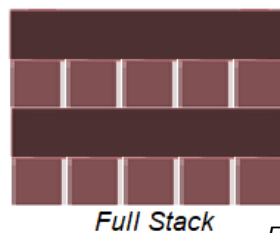

Figure 2
- 4) Full Stack – stack the blocking as seen in figure 2.